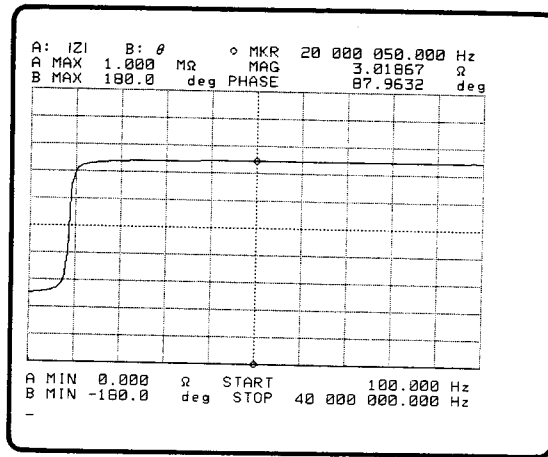

Figure 3-4. Power-On Default Display
**SWEEP MODE** section key used to set the sweep mode to the **REPEAT** sweep mode. The lamp in the key will light. Figure 3-4 shows the measurement data.